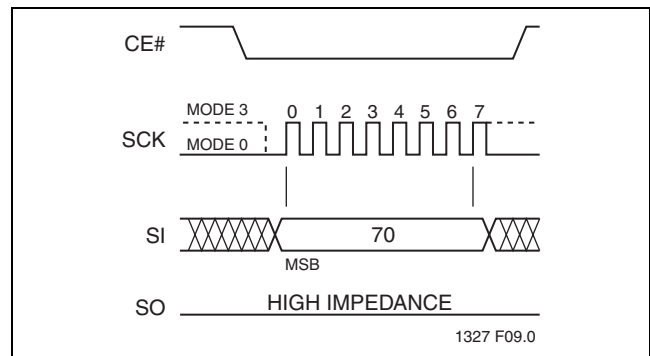

FIGURE 8: Enable SO as Hardware RY/BY# during AAI Programming
The hardware end-of-write detection method eliminates the overhead of polling the Busy bit in the Software Status Register during an AAI Word program operation. The 8-bit command, 70H, configures the Serial Output (SO) pin to indicate Flash Busy status during AAI Word programming, as shown in Figure 8. The 8-bit command, 70H, must be executed prior to executing an AAI Word-Program instruction. Once an internal programming operation begins, asserting CE# will immediately drive the status of the internal flash status on the SO pin. A '0' indicates the device is busy and a '1' indicates the device is ready for the next instruction. De-asserting CE# will return the SO pin to tri-state.